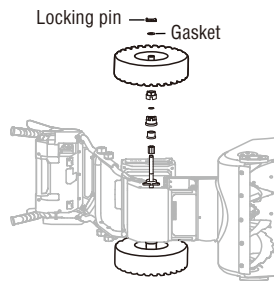

Fig.13
1. Remove the battery packs before any maintenance. Lay the snow blower on its side, then pull out the locking pin to remove the outer gasket and the wheel. Save the inner gasket on the wheel shaft. (Fig.13)